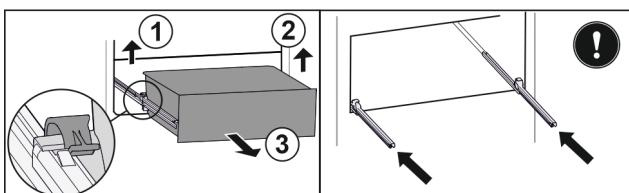

Fig. 103
- Lift left clamp and simultaneously pull drawer forwards on the left. Fig. 103 (1)
- Lift right clamp and simultaneously pull drawer forwards on the right. Fig. 103 (2)
- Remove drawer to the front. Fig. 103 (3)